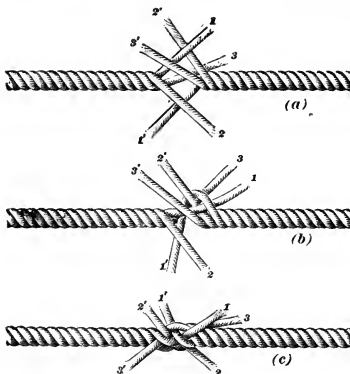

FIG. 1.
**22.** **Splicing a Sling.**—To make a short splice in a sling, untwist the strands for some distance from each end of the rope. Take an end in each hand and lay the strands within one another, as shown in Fig. 1 (a). The strands 1', 2', and 3' may be tied to the left-hand end for convenience in handling. Now take the strand 1, pass it over strand 2' and under strand 1', as shown in Fig. 1 (b); then, draw it
tight. Next, take strand 2, pass it over 3' and under 2', drawing it up tightly. Now take strand 3, pass it over 1' and under 3'; then draw it up. The splice will now appear as shown in Fig. 1 (c).